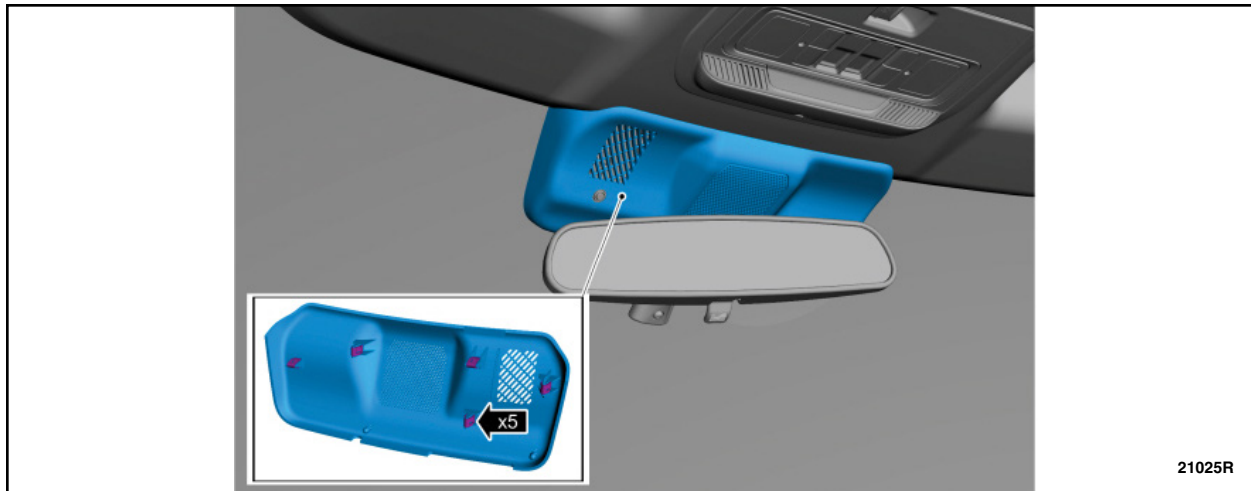

FIGURE 9
9. If equipped, remove the *camera*/rain sensor cover. See Figure 9.